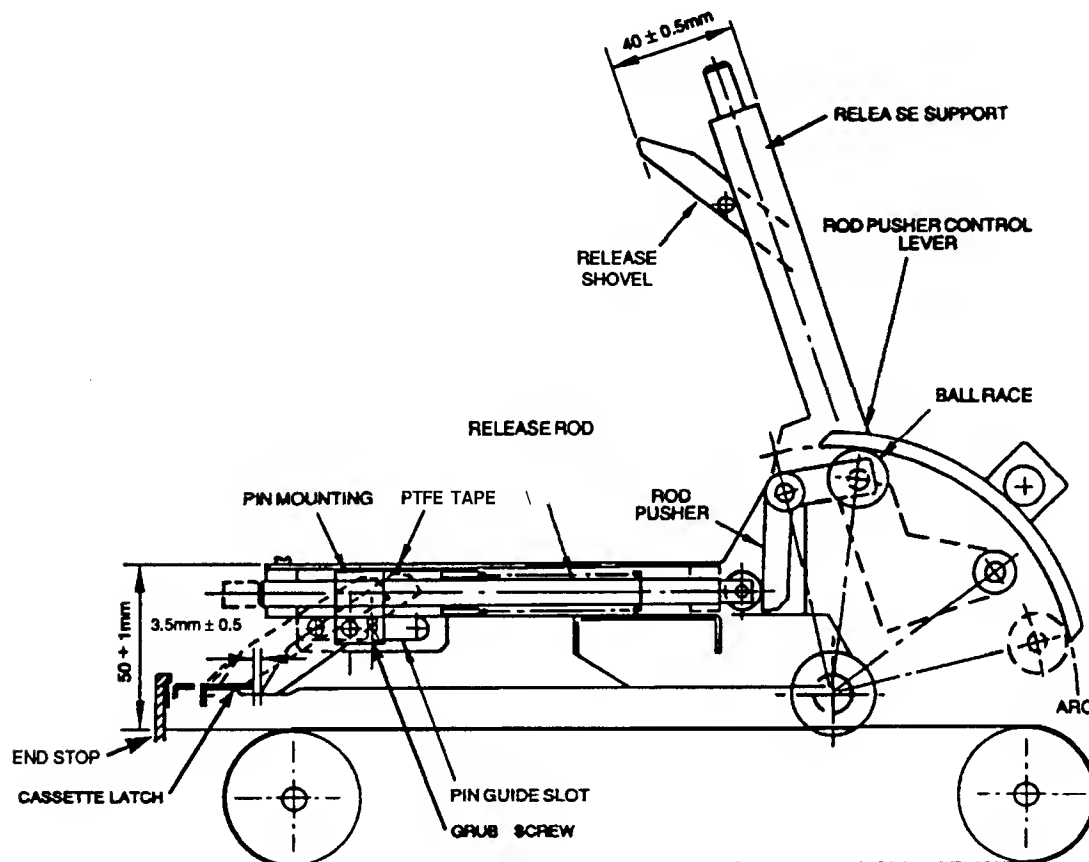

Figure 2
- 1 Using the JOG SWITCH (S 16 on PCB 106/A/B), cycle the CASSETTE OPENER MECHANISM until the RELEASE SUPPORT is at its lowest point relative to the CONVEYOR BELT. Set this height to be 50 mm +/- 1 mm (see fig 2 - page SM 11) by adjusting the PUSH ROD 30012190.
- 3 Place a CASSETTE in the MINILOADER and push it hard against the **ENDSTOP**. Using the JOG SWITCH cycle the MINILOADER to the point where the RELEASE ROD and SHOVEL are just about to move forward. Measure the gap between the CASSETTE LATCH and the RELEASE SHOVEL (see fig 2 - Page SM 11). The gap **should** be 3.5 mm \pm 0.5 mm. If it is necessary to alter the gap, cycle the MINILOADER until the CASSETTE OPENER MECHANISM is raised, unhook the CASSETTE if it has been opened, and release the GRUB SCREW to slide the TOOTH ASSEMBLY on the RELEASE ROD (make sure you release the correct GRUB SCREW, it is the recessed one, the other SCREW controls the RETURN SPRING tension). Cycle the MINILOADER and re-measure the gap. Repeat until the correct gap is obtained.